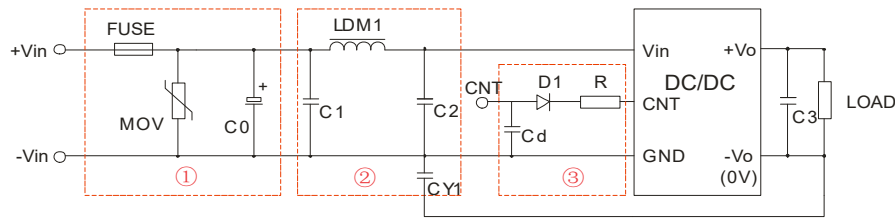

Fig.3
RE	CISPR32/EN55032 CLASS B (see Fig.3-② for recommended circuit)
- ① For EMC tests we use Part ① in Fig.3 for immunity and part ② for emissions test. Selecting based on needs.
② V_C is the voltage of the CNT end relative to the GND of the input grounding; V_D is the positive-going conduction pressure drop of D1; I_c is the current flows into the CNT end and its value is generally 5-10mA, see Fig.3-③ for the peripheral circuit of CNT end;
③ If there is no recommended parameters, no external component is required.